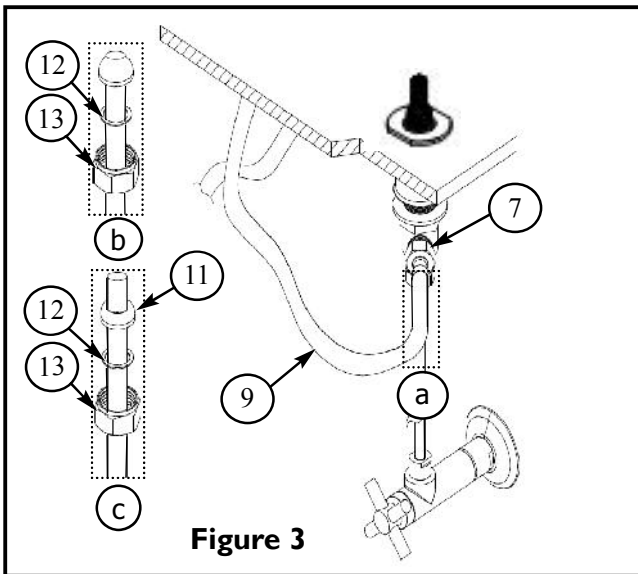
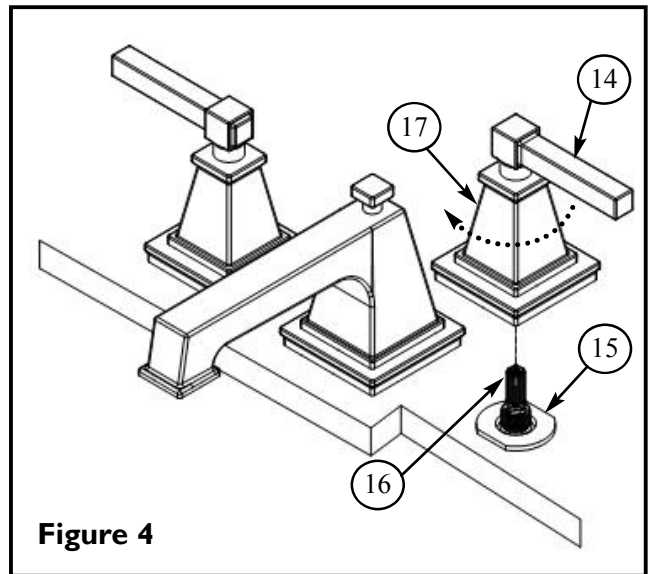

Figure 3
Figure 4
4. Connect hot/cold water supply to appropriate $1/2''$ NPSM valve BODY (7), utilizing one of the three following types of risers. Supply risers not included. See Figure 3.
- a. $1/2''$ IPS flexible riser: discard rubber nosecone WASHER (11), friction WASHER (12) and coupling NUT (13).
- b. $3/8''$ or $1/2''$ OD bullnose riser: utilize friction WASHER (12) and coupling NUT (13).
- c. $1/2''$ copper riser: utilize rubber nosecone WASHER (11), friction WASHER (12) and coupling NUT (13).
5. Secure HANDLE (14) into place by first engaging the STEM (16) and then threading HANDLE BODY (17) onto CARTRIDGE (15). Any adjustments for rotational alignment must be made to the valve BODY (7), not to the CARTRIDGE (15). See Figure 4.